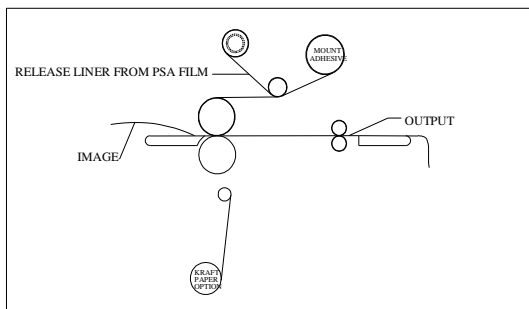

Fig. 17
1. Load the laminator as illustrated in Fig. 17.